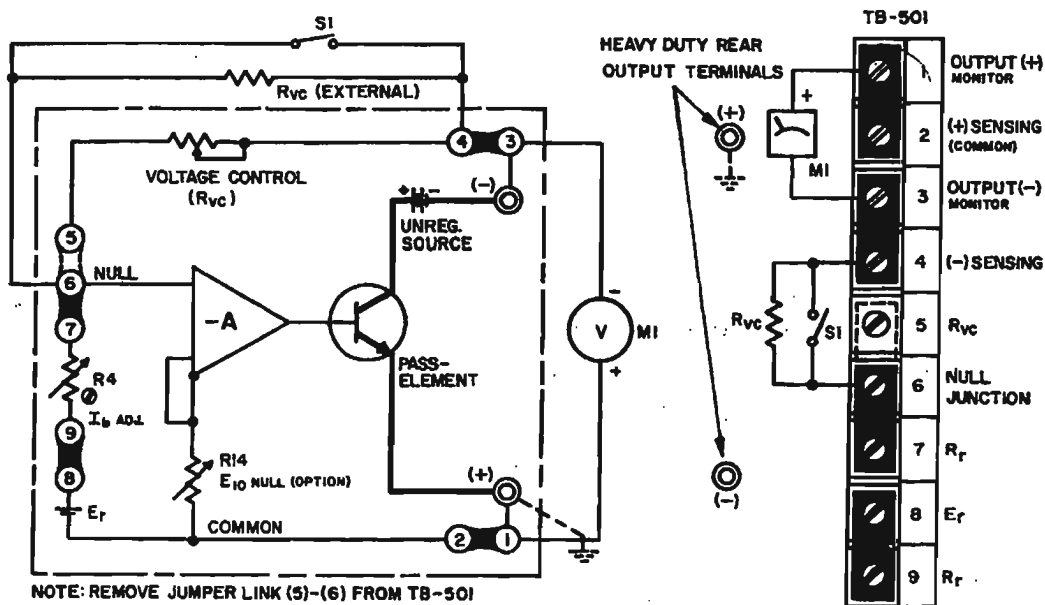

FIG. 3-4 CONNECTIONS FOR PRECISION PROGRAMMING RATIO ADJUSTMENT
### 3-16 PROCEDURE. PRECISION PROGRAMMING RATIO ADJUSTMENT (Refer to FIG. 3-4)
- b) Connect calibration set-up as shown in FIG. 3-4 and connect the power supply to the AC power line.